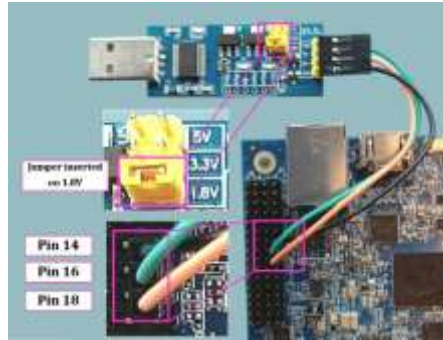

Figure 8. UART1 adapter board and cable (jumper and pin connections magnified)
- Before starting, the next steps, confirm on the adapter board that the jumper is attached to the 1.8[v], as displayed in the pink rectangle in Figure 8. In a case where a different UART adapter is used, find the voltage control and set it to 1.8V. **Note: setting the wrong voltage will cause damage to the device.**
4. Insert the cable connections on the SBC side (J4 header) See Figure 8.